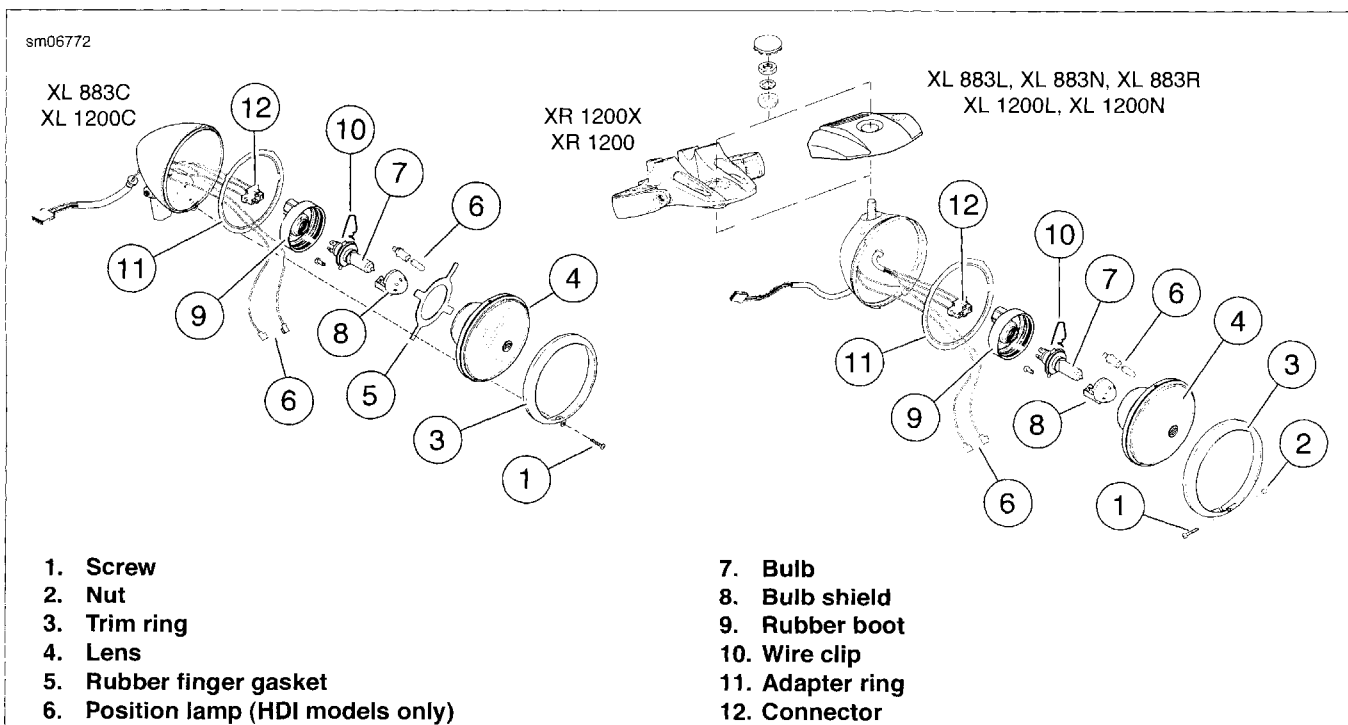

Figure 6-47. Headlamp Assemblies
14. See Figure 6-47. Fit the adapter ring (11) to the reflector/lens (4) and fit the adapter ring to the headlamp shell.
2. See Figure 6-47. Remove screw (1) and chrome outer molding ring (3).
3. Hold headlamp reflector/lens (4) and compress release tabs on sides of bulb connector (12) to pull connector from spade terminals.
4. Pull rubber boot (9) from back of reflector/lens.
5. Press ends of retaining clip (10) to unhook from notched retaining tabs and pivot retaining clip back.
6. Remove bulb (7).